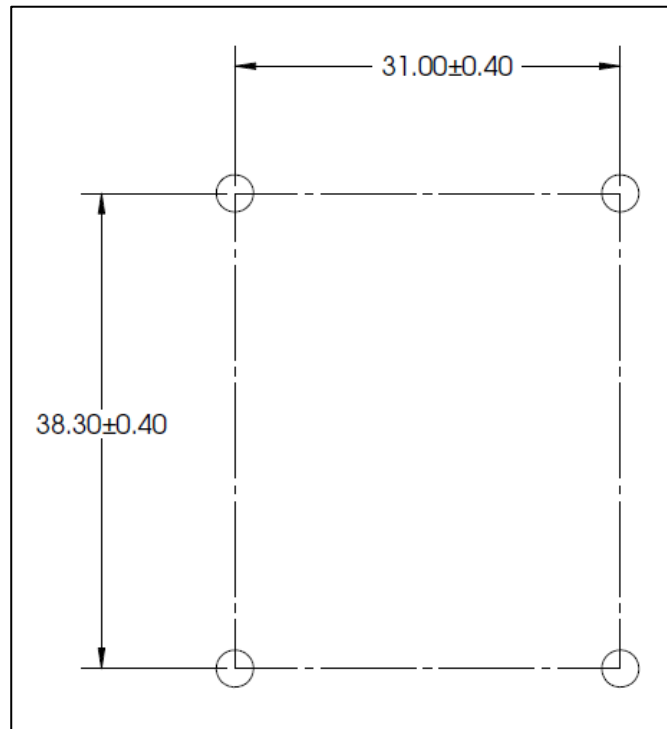

Figure 15: Recommended Center to Center Spacing for Tapped Mounting Holes
6. Bridgelux recommends four tapped holes for mounting screws – refer to figure 15 (Mechanical Assembly and Handling) for recommended spacing of holes.
Product should be firmly secured onto appropriate heat sink by fastening M2.5, M3 or #4 screws on both sides of the product as illustrated in Figure 14. To ensure proper thermal contact it is important to mount the LED Array to the heat sink using 4 mounting screws. Bridgelux recommends the use of hard non-electrically conductive flat washers with lock washers. The recommended center to center spacing for the four tapped holes for mounting the Bridgelux RS Series Array is shown in Figure 15. Refer to Application Note AN11 – Handling and Assembly of Bridgelux LED Arrays, for more details.
Notes for Figure 15: